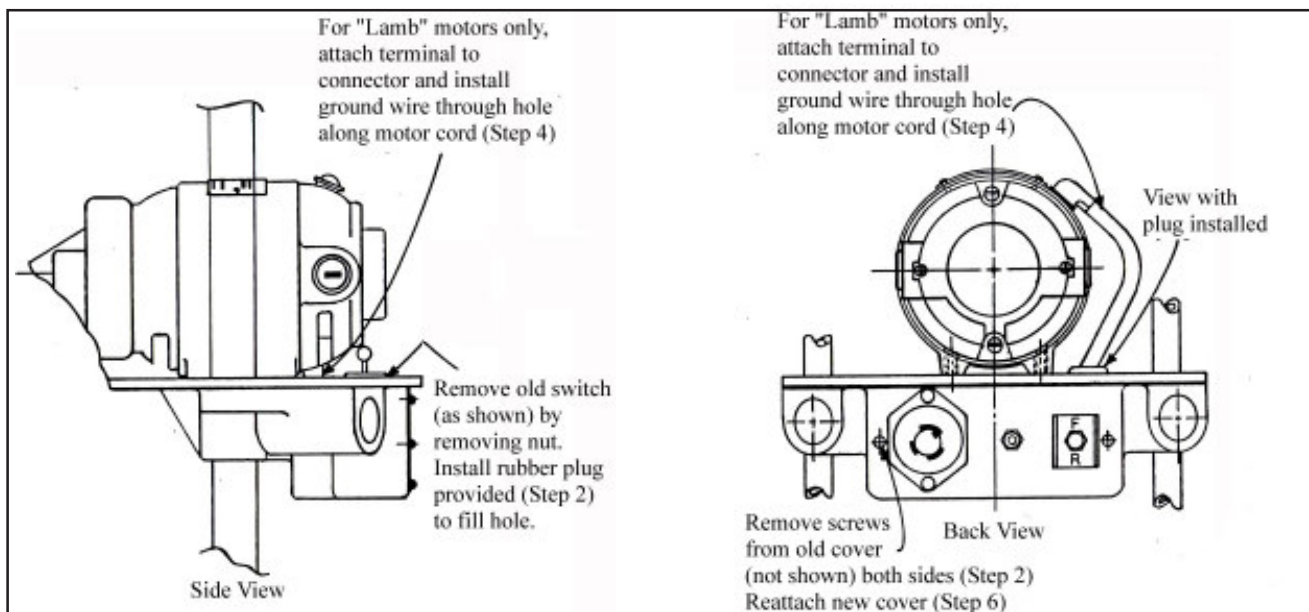

Fig. 1
2. Remove electric outlet cover by removing 2 screws on side of cover (Fig. 1). Disconnect all motor cable terminal connections. Remove old toggle switch by removing top lock nut. Plug switch hole with rubber plug provided in kit. Lips on plug should lie smoothly on both sides of casting.
4. If you motor has 4 rather than 5 wires, it is a "Lamb" motor. For extra ground protection on "Lamb" motors only, attach new blue jumper wire provided to the motor 90° cable connector (Fig.1). Run ground wire along motor cable by inserting through hole (Fig.1) going into switch housing of machine frame. Pull ground wire slack into switch housing.
cover so that, when mounted, it will fit as shown in Fig. 1 without twisting the wires. Wire as follows:
6. Peel back tape on insulation paper of Step 5. Wrap paper around electric components of outlet cover (Fig. 2) and retape. Install box cover and mount with screws provided (Fig. 1).